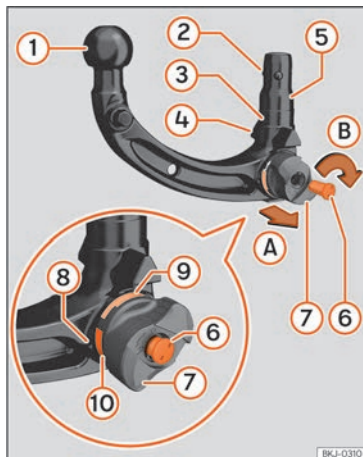

Fig. 156 Overview: removable tow hitch.
- ③ Locking mechanism (ball)
- ④ Centring guides
- ⑤ Stem
- ⑥ Key
- ⑦ Key slot cover
- ⑧ Thumbwheel
- ⑨ Green mark on the tow hitch
- ⑩ Red mark on the thumbwheel
3. Open the lock cover >>> Fig. 156 ⑦ and insert the key ⑥ into the lock.
4. Turn the key ⑥ counterclockwise until the arrow on the key points towards the lock open symbol on the thumbwheel ⑧.
5. Hold the tow hitch with one hand. With the other, pull out the thumbwheel ⑧ in direction A.
6. Turn the extracted thumbwheel ⑧ in direction B as far as the stop.
8. Release the thumbwheel ⑧.